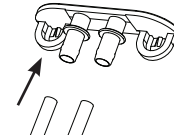

Figure 7
- 11. Remove the plugs and allow the water to completely drain. See figure 7.